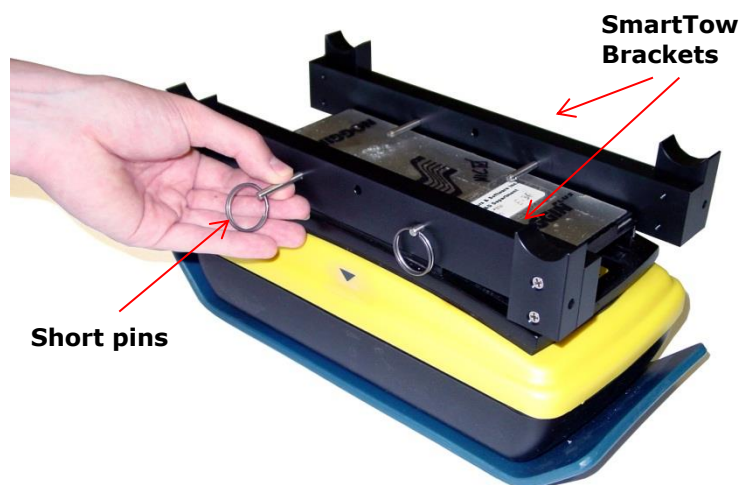

Figure 2-50: Securing SmartTow brackets to Noggin with pins
3. Secure the connections with the short metal pins (Figure 2-50).